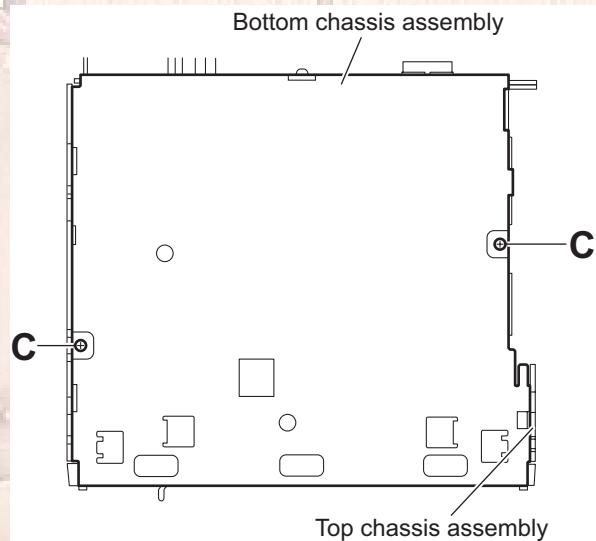

Fig.3
(See Figs.3 to 6)
- From the bottom side of the main body, remove the two screws **C** attaching the top chassis assembly to the bottom chassis assembly. (See Fig.3)